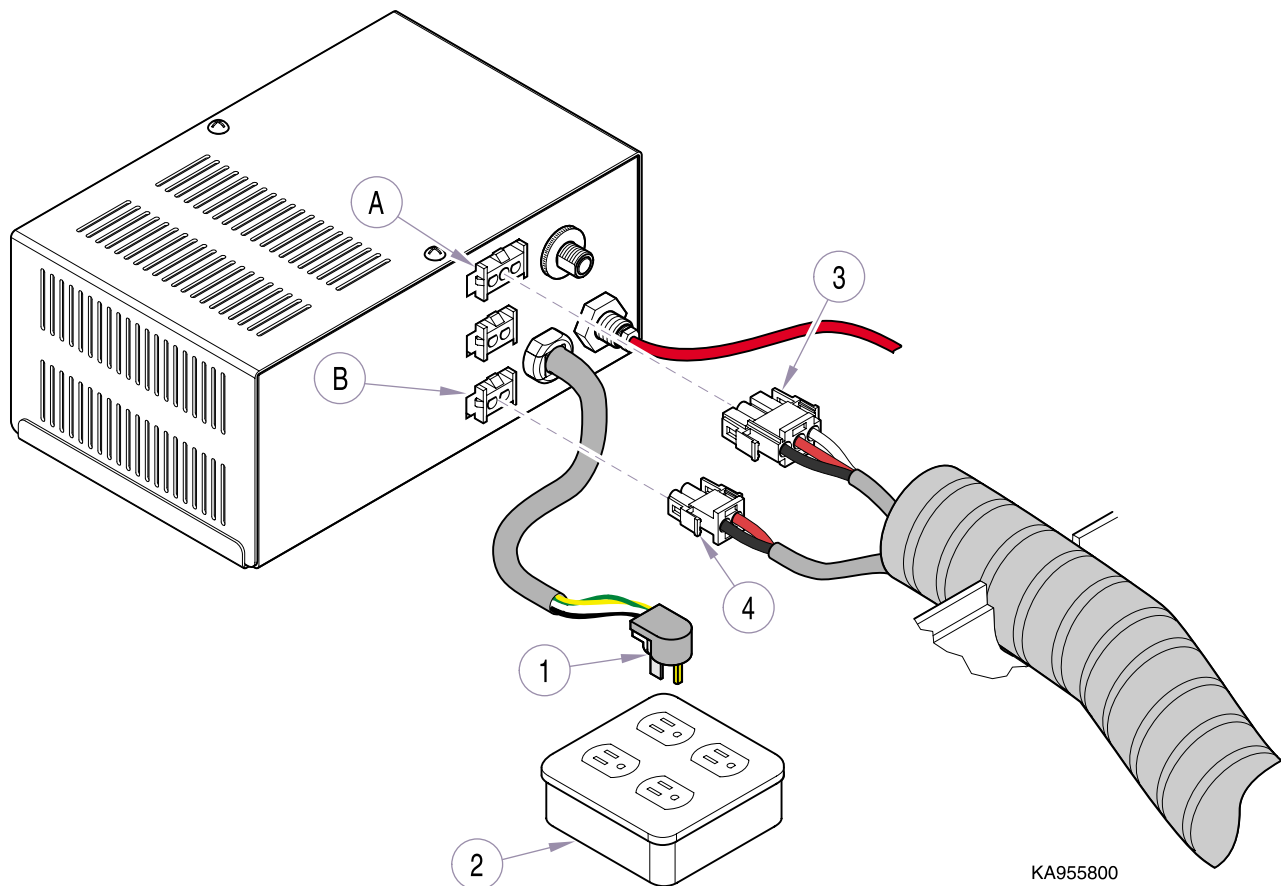

Figure 2. Electrical Connections
- (1)** Plug power cord (1, Figure 2) **[from transformer]** into receptacle (2).